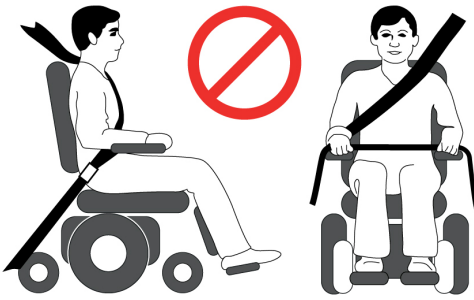

Fig. 7.2
- Use a three-point occupant restraint system to secure the occupant of the wheelchair on the pelvis/hips and shoulder. This three-point safety belt must be secured to the roof and the floor of the vehicle (fig.7.2).
- The other part of the belt is positioned to sit across the chest and shoulder (fig. 7.2).
- A steeper (greater) angle within the preferred zone is desirable i.e. closer to, but never exceeding 75° degrees (Fig. 7.2).